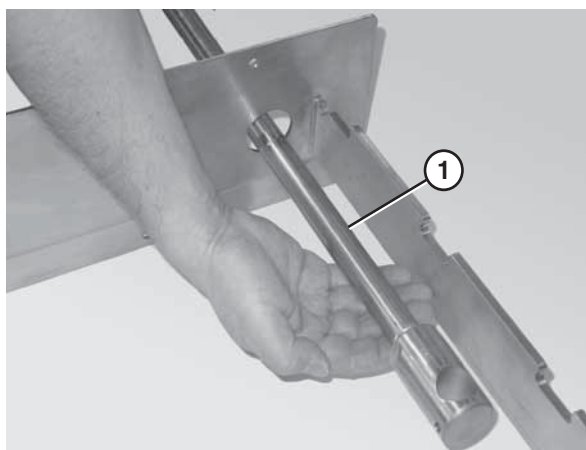

Figure 12
1. Slide the tip up shaft (Figure 12, item 1) through the designated slots in the frame.